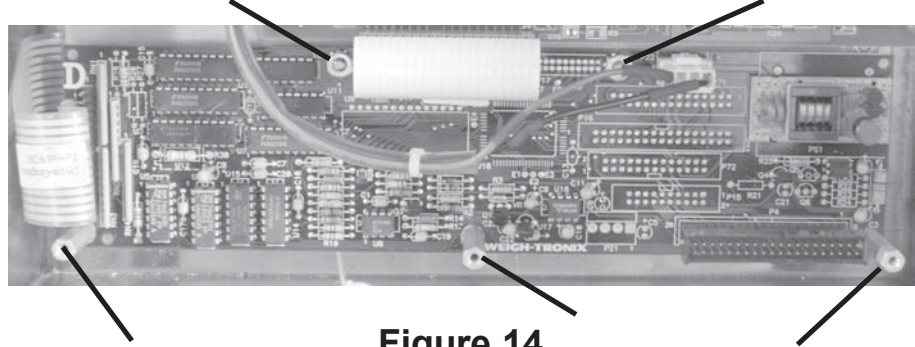

Figure 14
5. There is a display pc board and a display module attached to the backer plate. If you need to remove the display board, disconnect the cables and remove the three standoffs and two nuts shown in Figure 14